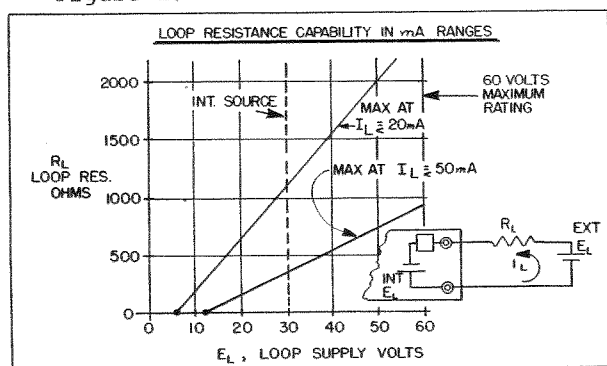

Figure 2: Loop Resistance Capability in mA Output Ranges
- Loop resistance: maximum depends on current setting and total loop voltage as shown in Figure 2.